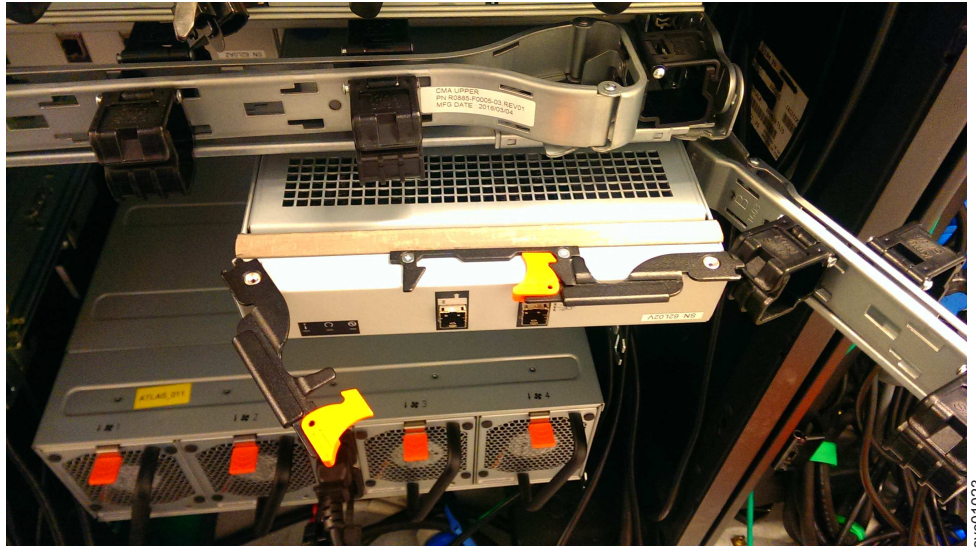

Figure 60. Install the expansion canister
1. Disconnect the elbow of the lower cable management arm to swing it out of the way, as shown in Figure 60 on page 70.
4. When the expansion canister is fully inserted, rotate each handle inward to lock it into position, as shown in Figure 60 on page 70.